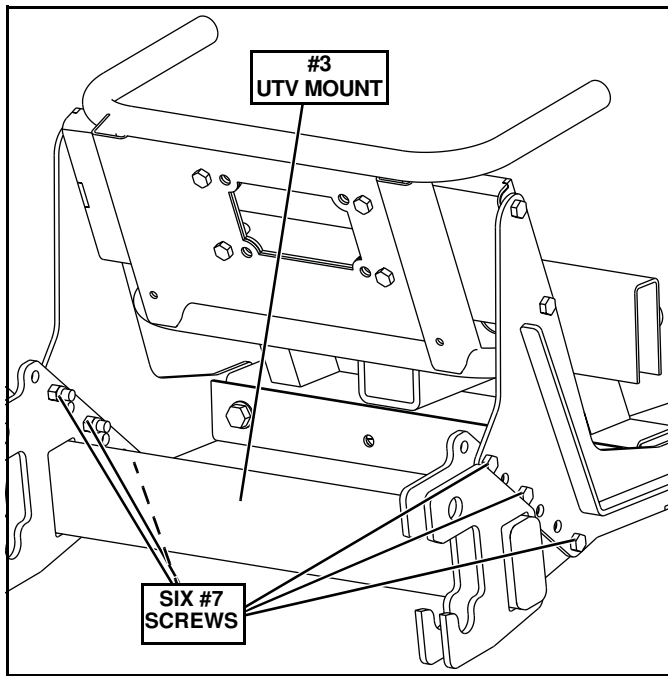

Figure 12
17. Secure the UTV Mount (#3) with (6) 3/8" x 1-1/4" Hex Head Cap Screws (#7) and (6) 3/8" Lock Nuts (#8). (See Figure 12.)